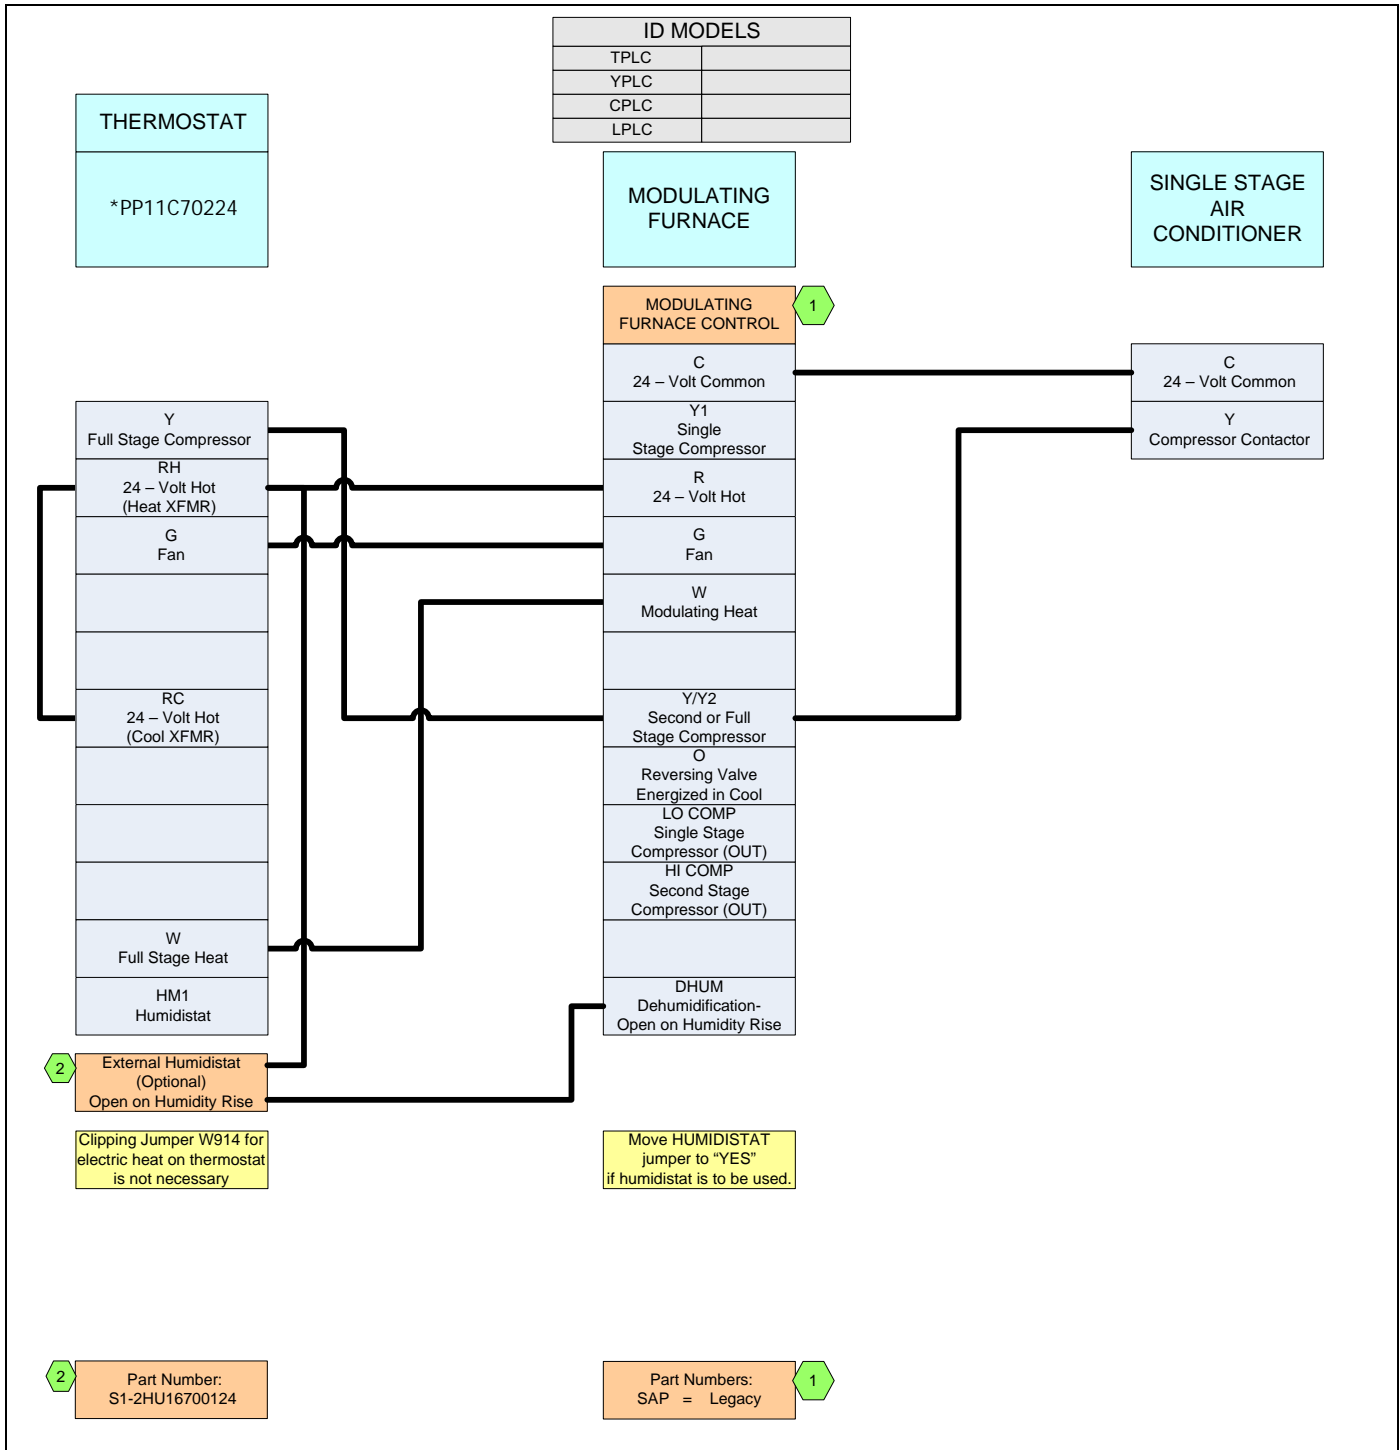

FIGURE 21: Thermostat Chart - Single Stage Air Conditioner – Variable Speed or PSC Modulating Furnace
**For Single-Stage A/C** - Connect the low voltage wiring as shown in Figure 21, Thermostat Chart.